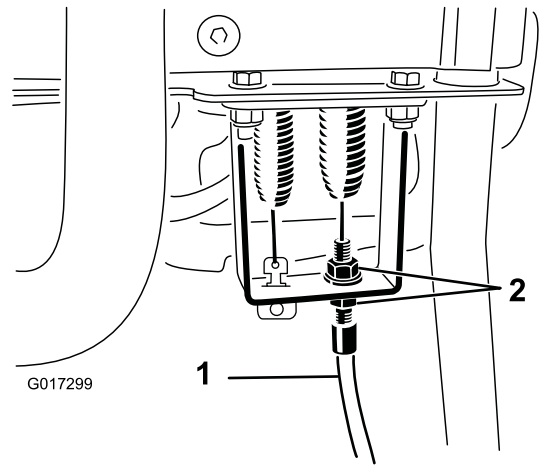

Figure 52
4. At the control handle bulkhead, loosen the reel-control cable until there is slack in the cable (Figure 52).